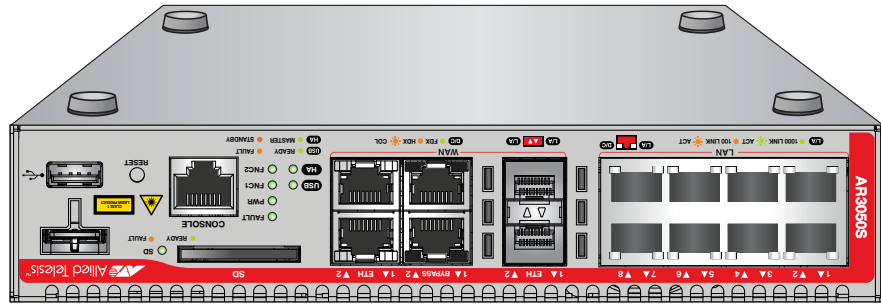

Figure 5. Turning the router upside down
1. Place the unit upside down on a level, secure surface, as shown in Figure 5.